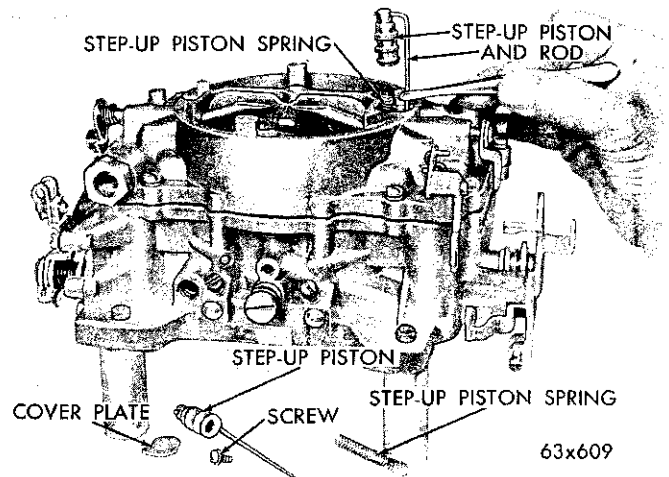

Fig. 5—Removing the Step Up Pistons
(4) Remove the step-up piston cover plate screws and plates. (Hold a finger over plate when removing screws to prevent the piston and metering rods from flying out.) Remove the step-up pistons and metering rods, as shown in Figure 5. Remove the step-up piston springs.
(5) Remove the choke cable bracket, then remove the ten air horn attaching screws (1 screw recessed). Then lift the air horn straight up and away from main body. Be careful not to bend or damage the floats. Remove the pump plunger spring from the pump well.